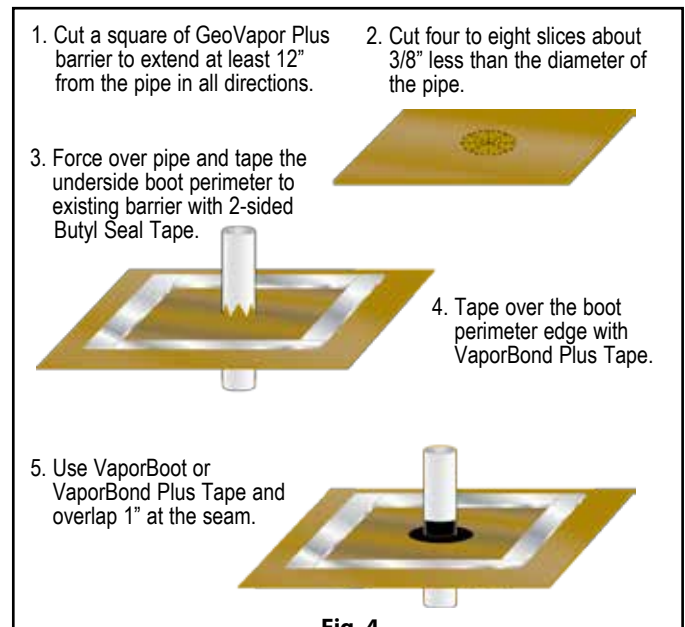

Fig. 4
Pipe boots may also be fabricated from excess **Geo Vapor Plus** membrane (Fig. 4 & 6) and sealed with VaporBoot Tape or VaporBond Plus Tape (sold separately).
To fabricate pipe boots from **Geo Vapor Plus** excess material (see Fig. 4 & 6 for A-F):
- F) Complete the process by taping over the boot perimeter edge with VaporBond Plus Tape to create a monolithic membrane between the surface of the slab and gas/moisture sources below and at the slab perimeter. (Fig. 4 & 6)